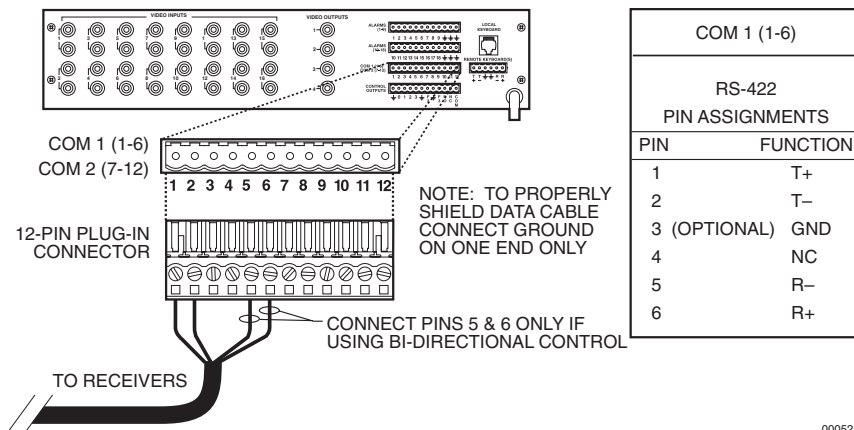

Figure 10. COM 1 Connections on the SCU
2. Refer to Figure 10. Connect control lines to COM 1 at the connector on the back of the SCU.